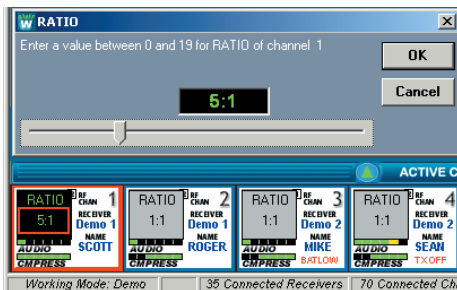

Fig. 13d - All Channel View (after right-clicking and selecting Ratio).
- To select a channel to edit in either view, left click on a channel in All Channel View (indicated by a red border around the selected channel). This displays the selected channel's settings in the Command View. A right mouse click on a single channel shown in the All Channel View pops up a menu of parameters (see figure 13d). The value of the parameter selected is displayed in the All Channel View for each RF channel, and also pops up an adjustment screen for the selected channel. You can review and compare settings on all channels, one parameter at a time, and adjust any setting on any unit from the All Channel View.